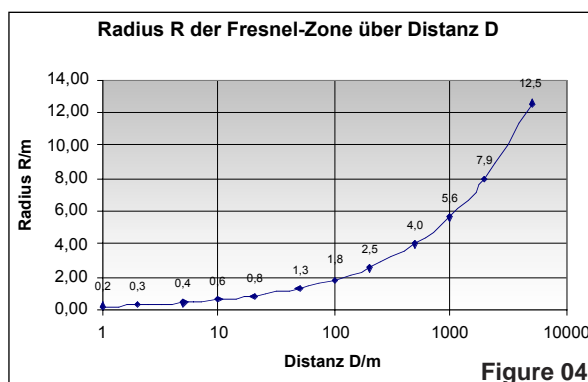

Figure 04
The radius corresponds to the minimum height of the antenna mast (if the terrain is level). For a 2.4 GHz system, the mast height  $R/m$ , depending on the distance to be covered  $D/m$ , is given in the characteristic curve in Figure 04.
**Example (Figure 04):** For a distance of 100 m (328.084 ft.), the antenna should be installed at a minimum height of 1.80 m (5.906 ft.) to provide a clear Fresnel zone.